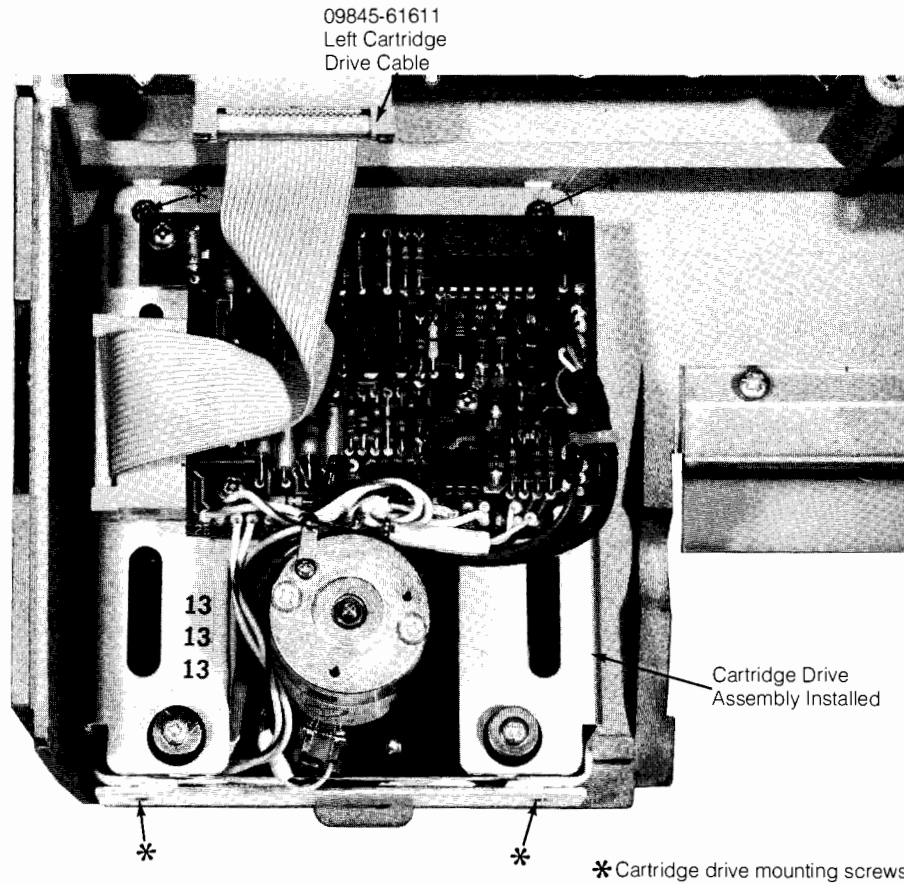

Figure 1-12: Drive Installation
- Connect the cartridge drive cable (09845-61611) to the cartridge drive assembly and install the assembly as shown in Figure 1-12.